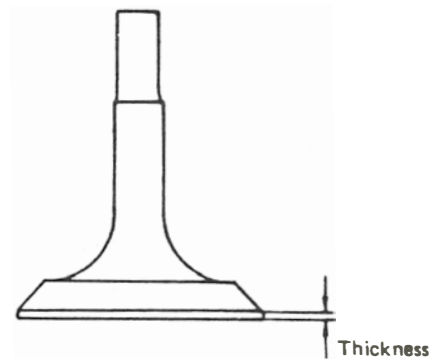

Figure 12
5. Check the thickness of the valve head, Figure 12. If the thickness is less than specified limits page 28, replace the valve.